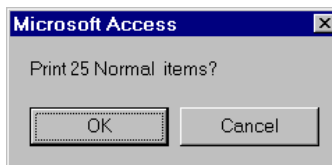

Figure 3-23
5. Click **OK** as prompted (Figure 3-23) to print the mail items.